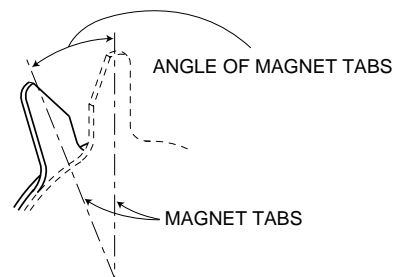

Figure 3. Adjusting Magnet
12. Adjust the angle between the two purity magnet tabs to center the vertical green belt in the picture tube. Do not rotate tabs. See Figure 3.